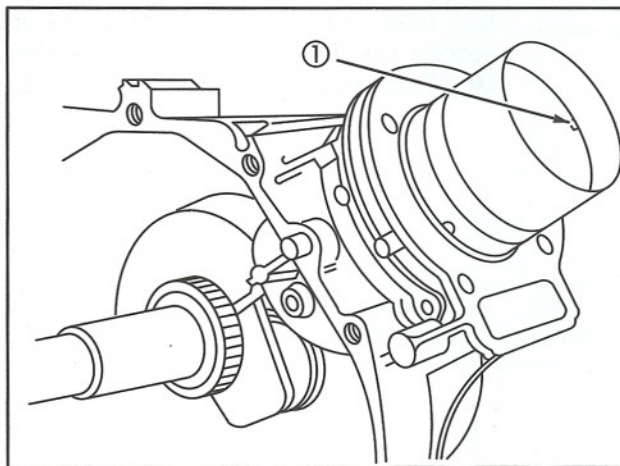

Fig. 20
Install piston with notch or arrow (1) toward flywheel side of engine, Fig. 20. Take care not to damage crankpin journal or connecting rod journal.